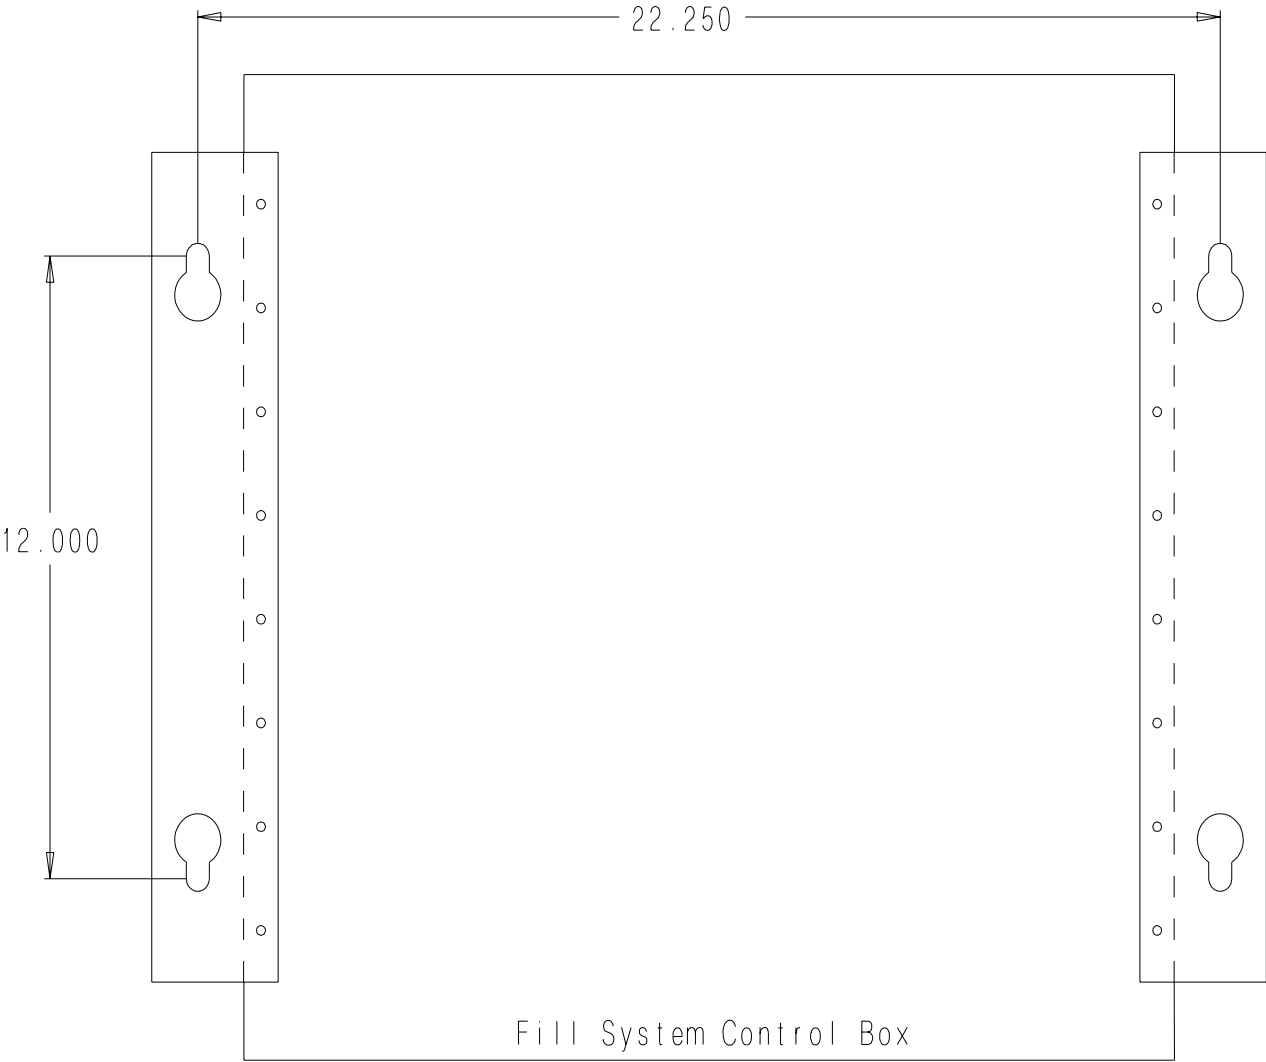

Figure 2: Fill System Control Box Bolt Pattern
- 3) Use the pattern in Figure 2 to drill holes for the Fill System Control Box.